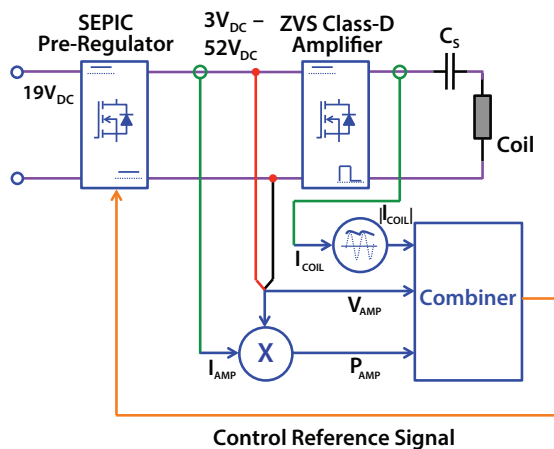
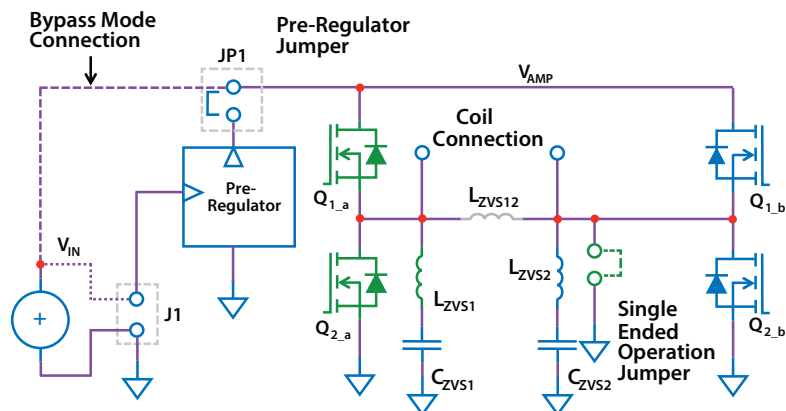

Figure 2: Block diagram of the EPC9509 wireless power amplifier
Figure 3: Diagram of EPC9509 amplifier circuit
Figure 2 shows the system block diagram of the EPC9509 ZVS class-D amplifier with pre-regulator and Figure 3 shows the details of the ZVS class-D amplifier section. The pre-regulator is used to control the ZVS class-D wireless power amplifier based on three feedback parameters 1) the magnitude of the coil current indicated by the green LED, 2) the DC power drawn by the amplifier indicated by
2. With power off, connect the main input power supply bus to J1 as shown in Figure 3. Note the polarity of the supply connector.
2. With power off, connect the main input power supply bus +VIN to the bottom pin of JP1 and the ground to the ground connection of J1 as shown in Figure 3.